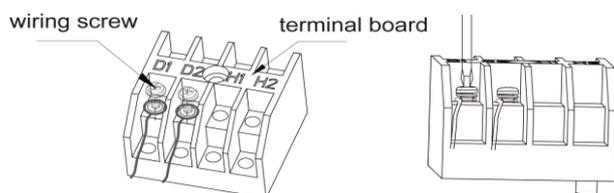

Fig 5.3.1
- (1) Detach the electric box cover..
- (2) Let the Communication cable pass through the wiring through-holes.
- (3) Connect the communication wire to terminal D1 and D2 of indoor 4-bit wiring board, as shown in Fig5.3.1.